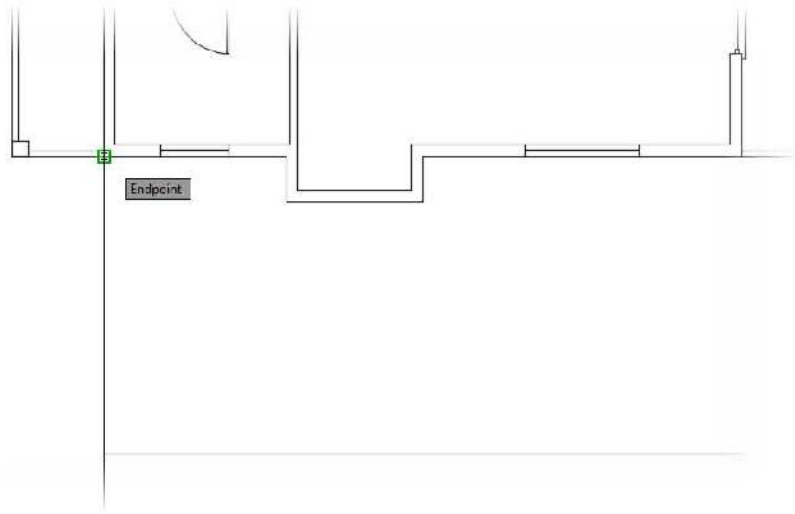

FIGURE 10.6: Drawing a construction line to represent the outside wall by the bathroom
5. Using the Endpoint osnap, choose the lower-left outside wall by the bathroom, as shown in Figure 10.6. Keep this drawing open as you continue to the next exercise.